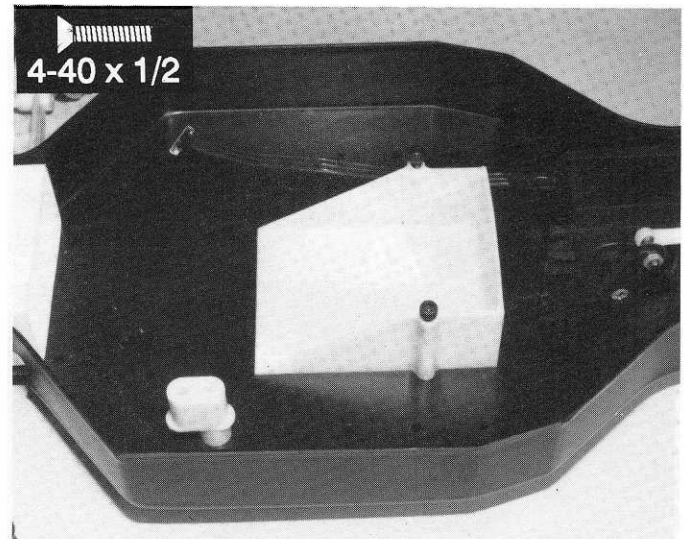

**Fig. 135**
**Figs. 135 & 136** From Bag 7-7 take one of the #6334 battery cup out and screw the two 4/40 x 1/2" SHCS screws in, as shown. One screw will have a very small hole in the head. The screws DO NOT go all the way down. There must be enough room between the screw head and battery cup for the #6335 battery strap to mount and swing freely.